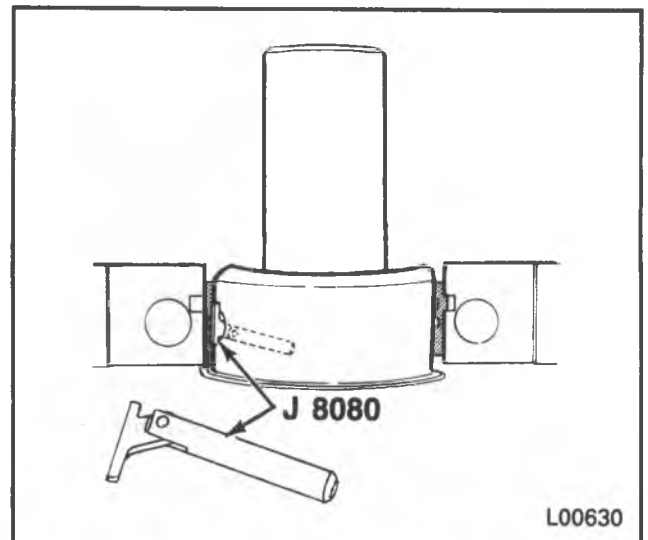

Figure 33 — Removing the Main Bearing Insert
Remove or Disconnect (Figure 33)
- Insert J 8080 into the crankshaft oil hole (figure 33).
Install or Connect (Figures 33 and 34)
- Insert J 8080 into a crankshaft main bearing oil hole (figure 33).